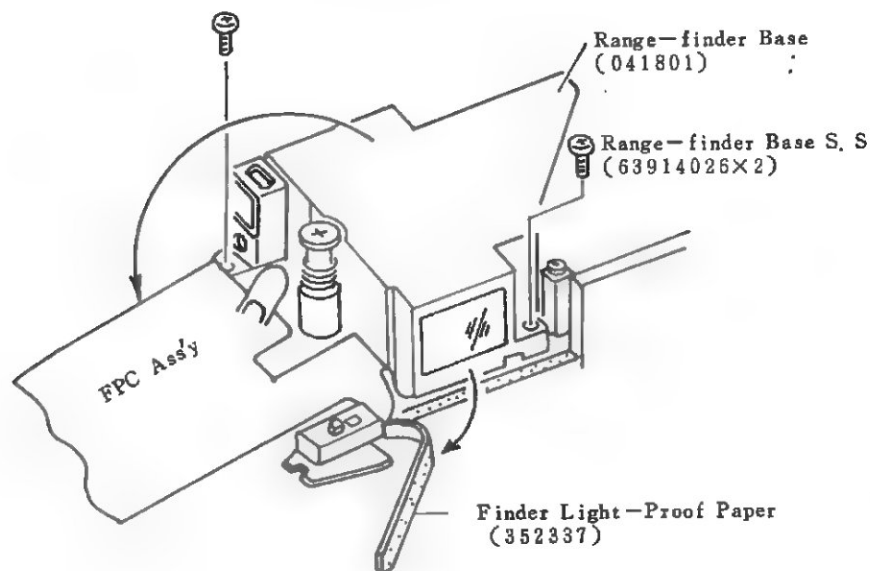

Fig 9
(4) Remove the Range-finder Base;
- b) Remove FPC Ass'y as Shown in (Fig 9).